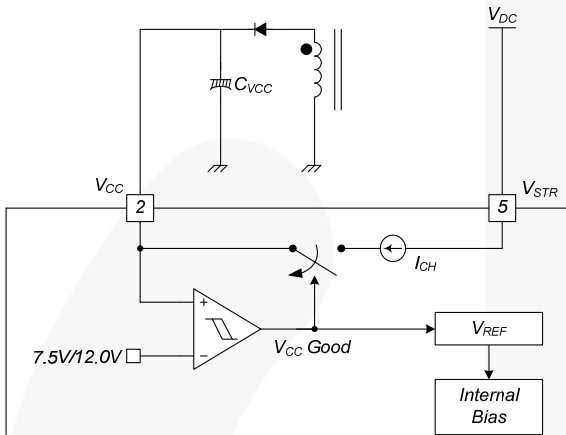

Figure 19. Startup Block
**1. Startup:** At startup, an internal high-voltage current source supplies the internal bias and charges the external capacitor ( $C_{VCC}$ ) connected to the  $V_{CC}$  pin, as illustrated in Figure 19. When  $V_{CC}$  reaches 12V, the FSL156MRIN begins switching and the internal high-voltage current source is disabled. Normal switching operation continues and the power is supplied from the auxiliary transformer winding unless  $V_{CC}$  goes below the stop voltage of 7.5V.